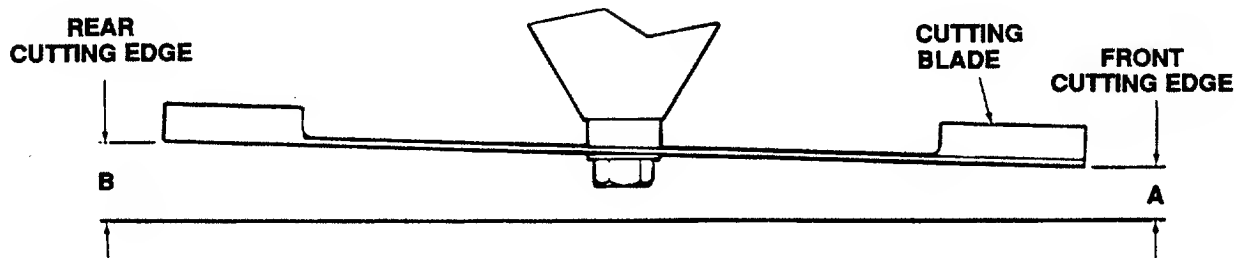

Figure 34
4. Refer to Figure 34. Measure and record the distance from the front cutting edge to the ground (measurement A), and from the rear cutting edge to the ground (measurement B), for each of the outside blades. The front edge of each blade (measurement A) should be lower than its back edge (measurement B) by 1/8 to 1/4 inch.